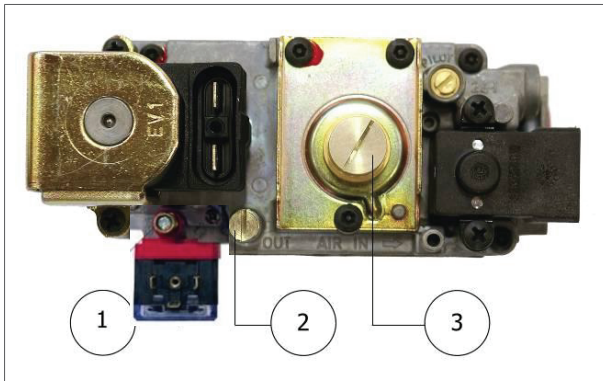

Figure 15 - Main parts of the gas valve
The flow of gas to the burner is controlled with a gas valve. The valve must be set to the correct burner pressure. The minimum gas pressure switch is mounted on the right side of the measuring point (figure 15).
2. Connect the pressure meter to the measuring point (figure 15 - 2).
6. If the burner pressure does not correspond with the specified value, turn the adjuster screw (figure 15 - 3) to the specified value.
- b. Measure the burner pressure (figure 15 - 2).